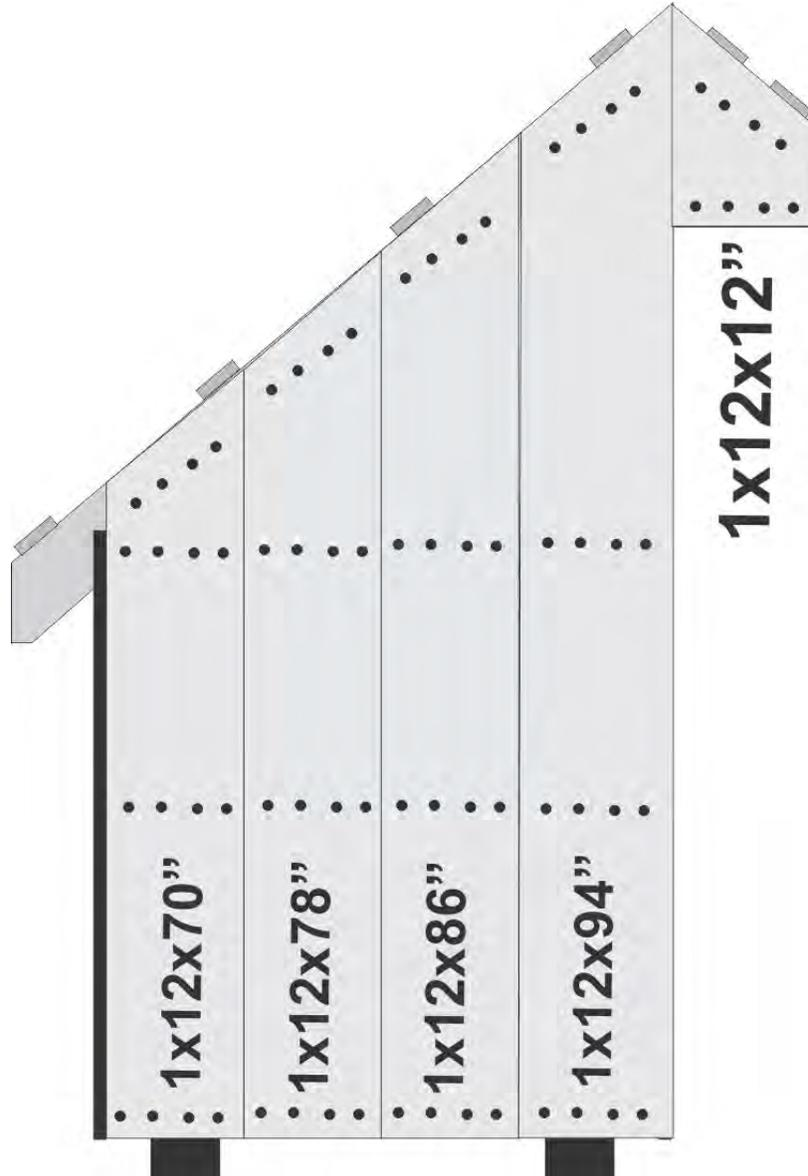

Figure 4
**Step 2.** Nail to the rim joist, horizontal nailer, top plate and rafters. Allow siding to hang below rim joists a ¼”. Use four 6d galvanized nails at each floor joist, nailer, top plate & rafter. 16 nails for each 1x12 siding board. Figure 4.